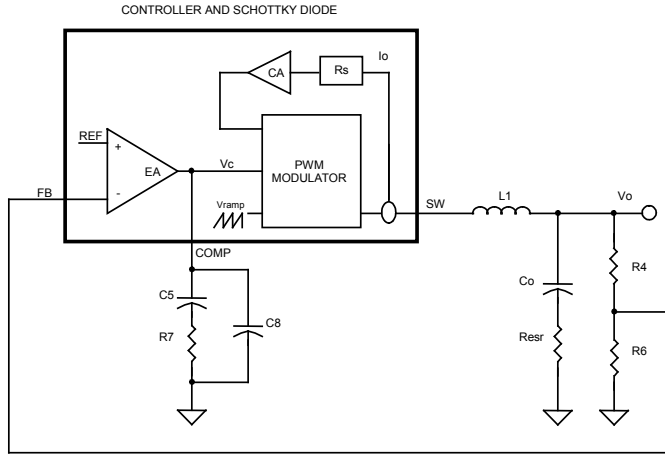

Figure 7. Block diagram of control loops
The block diagram in Figure 7 shows the control loops of a buck converter with the SC4524A. The inner loop (current loop) consists of a current sensing resistor ($R_s=6.1\text{m}\Omega$) and a current amplifier (CA) with gain ($G_{CA}=28$). The outer loop (voltage loop) consists of an error amplifier (EA), a PWM modulator, and a LC filter.
For a converter with switching frequency F_{SW} output inductance L_1 , output capacitance C_o and loading R , the control (V_c) to output (V_o) transfer function in Figure 7 is given by: